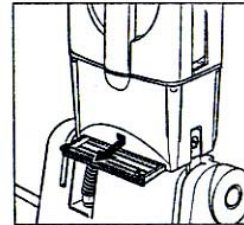

Figure 9
5.3 Replacing the exhaust filter <Figure 9>